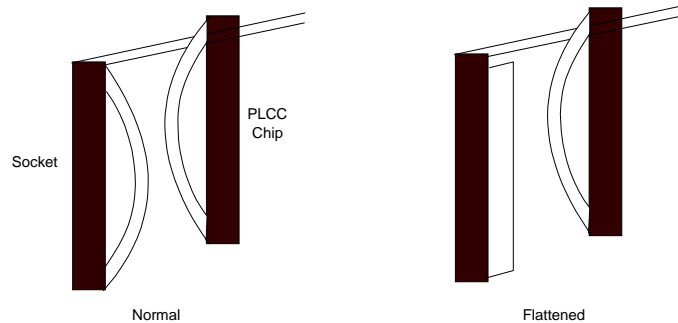

Figure 131. PLCC Socket Pins
- If you are using a PLCC socket, make sure the pins have not flattened out. This tends to occur after repeated adapter insertions (Figure 131).